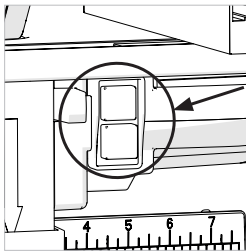

Fig. 24
2. Table Saw On/Off Switches (Fig. 24)